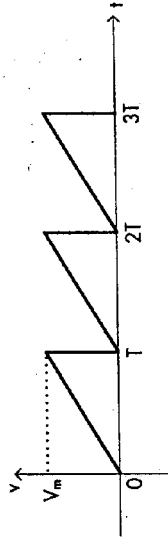

Fig. 2.12
12. Find rms and average value of the waveform shown in Fig. 2.12.